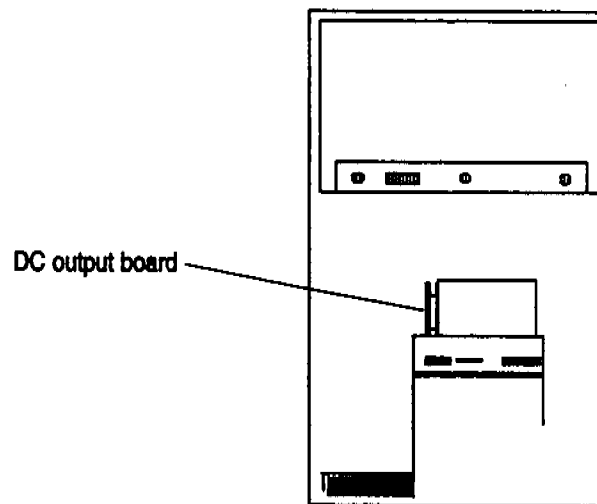

Figure 6-16 Location of the DC Output Board
2. Locate the DC output board. It sits sideways. See Figure 6-16.